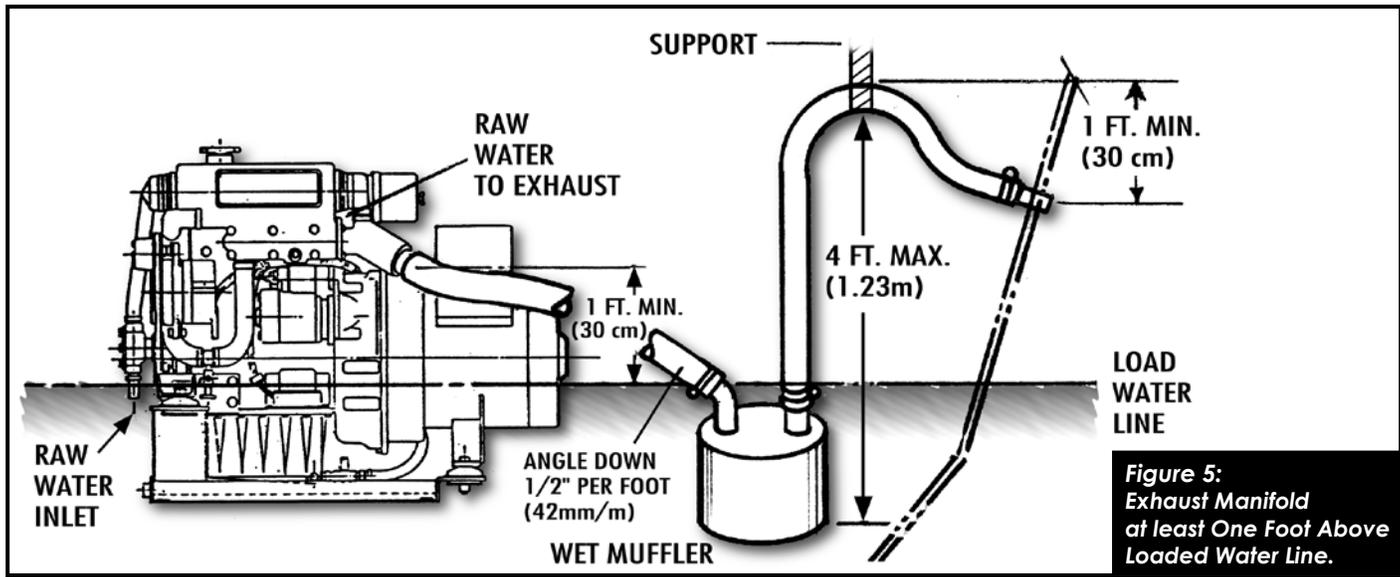

Figure 5:
6. If the point where the cooling water is injected into the exhaust is at least one foot above the loaded waterline, your installation should follow Fig. 5.